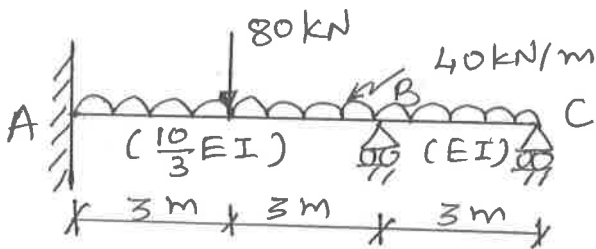

Fig. 3
(b) For a steel beam shown in the fig.3 show the slopes at 'B' and 'C' are  $9.311 \times 10^{-3}$  and  $0.345 \times 10^{-3} \text{ rad.}$ , using any matrix method. **07**
- Q.3** (a) Knowing displacements for the beam shown in fig.3 as per above Q.3.(b), compute reactions and member end actions, using any matrix method. **07**